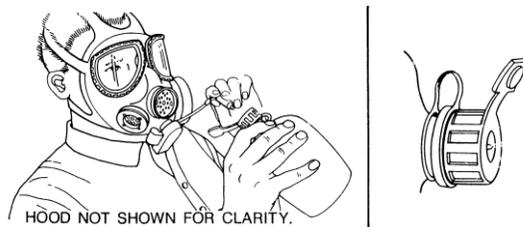

Figure 4
- (4) Remove the cap cover from the canteen cap (decontaminate if necessary).
- (5) With the canteen right side up, insert the quick connect coupling into the M1 canteen cap and blow air into the drinking system to create positive pressure within the canteen (See fig. 4)